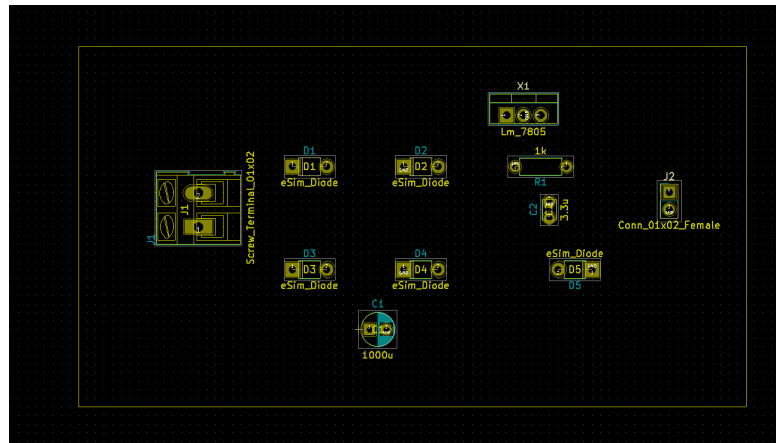

Figure 12.18: Drawing a board outline
4. Click once on the layout editor to start drawing the outline. Drag the cursor either horizontally or vertically. When it comes to the corner of the board, click once and drag the cursor in perpendicular direction. Do this till you reach the origin of the outline, and double click to finish drawing the rectangular outline. Completed outline is as shown in Fig. 12.18.
3. The procedure to place a track between Node 2 of Screw_Terminal_01x02 to Node 1 of D3 diode, as shown in Fig. 12.18 is described in below steps.